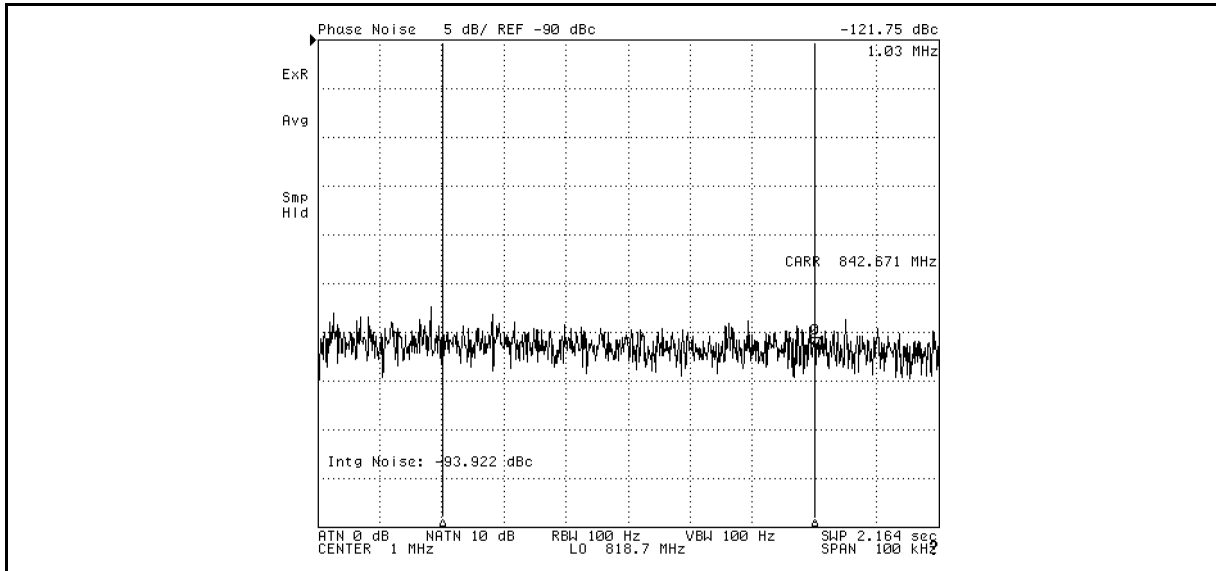

Figure 4-11.
7. The measurement result as shown in Figure 4-11 is displayed, and the lower left of the screen shows the value of the noise partial integration for the frequency range between 0.97 MHz to 1.03 MHz, as **Intg Noise: -xx dBc**.